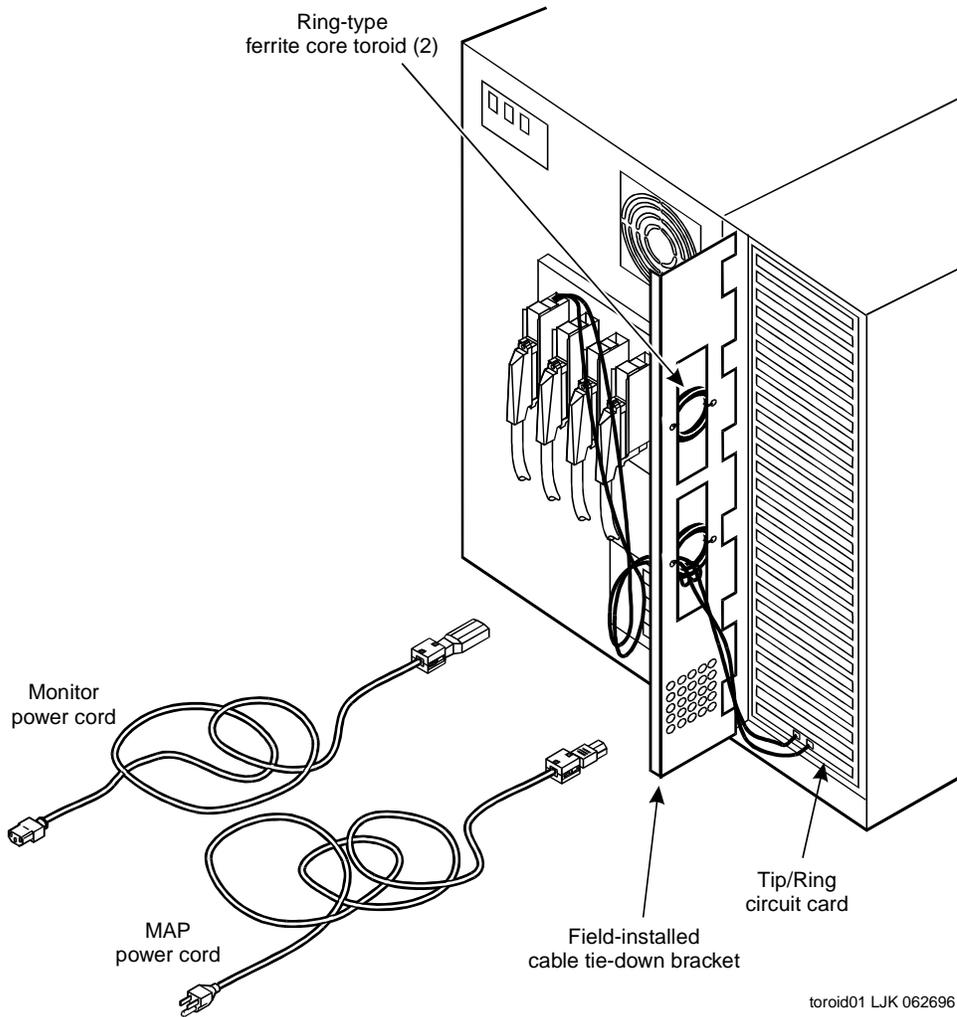

Figure 2-11. Cable Tie-Down Bracket Installation
2. Slide the bracket under the screw heads in the slots provided (Figure 2-11).